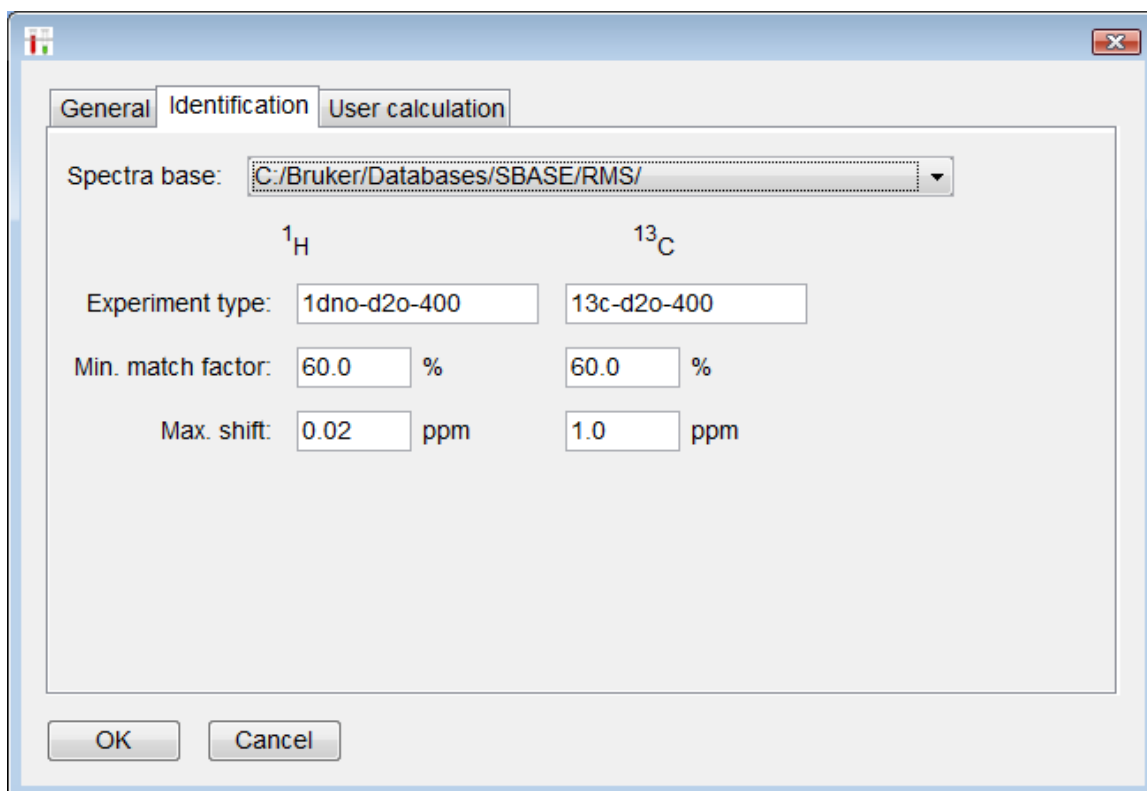

Figure 4.4 Shows the tab for Identification which uses the SBASE to identify and confirm compounds.
- Concentration – defines the integration method that will be used. Refer to Figures 4.4 and 4.5 for full details on the methods of integration.
Figure 4.4 shows the 'Identification' tab of the method. This tab contains the options: